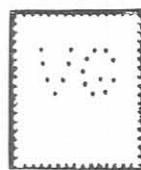
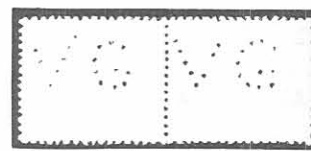
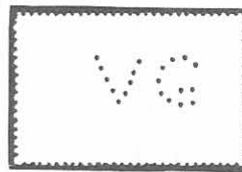

Figure 4
Figure 5
Figure 6
3. In recent years the Victoria Government has been using the VG Perfin illustrated in Figure 4. Prior to this, they used a machine that perforated 12 stamps at a time, each of which was slightly different. And, again prior to that machine, there was an earlier 12-head machine, again each one different. Recently I have noted on recent Australian stamps a VG as in Figure 6, which differs considerably from Figure 4. I found this was as one of the previous machine. Figure 5 shows a pair from that machine with the stamp on the right (with missing hole) as the recent ones. The recent usage has no missing hole, and Figures 6 and 7 suggest that the machine is now only punching one stamp at a time. Was there a major repair or what? The Figure 4 Perfins still appear to be in use, so was there a repair to the old machine for